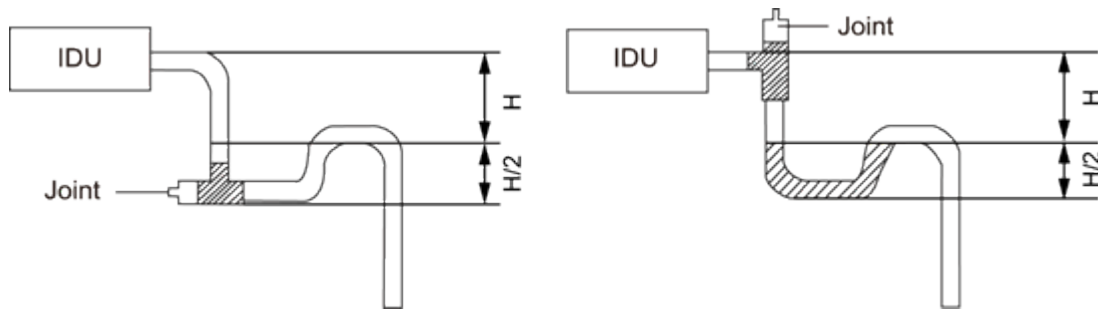

Fig 4.3.5
- (6) Install the trap as shown in following Fig 4.3.5.
- (7) Install one trap for each unit.
- (8) Locate the trap where it can be accessed for future inspection and cleaning.